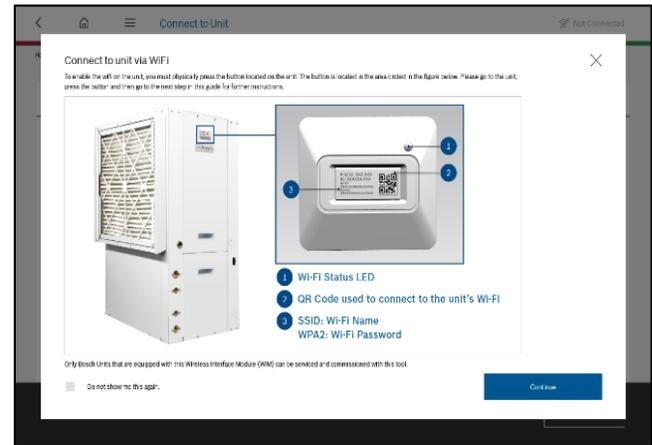

Figure 15: Connect to unit via Wi-Fi – Pop up
1. Open Bosch EasyStart app and then tap Connect to Unit icon. The connection Guide will open, instructing user how to connect to the unit. See the figure 15.
1. Open Bosch EasyStart app and then tap the Connect to Unit icon. The connection Guide will open and instructing user how to connect to the unit. See the figure 15.
1. Open Bosch EasyStart PC app. Tap the “Connect to unit” icon which will navigate to the next window where it will show instruction how to connect HPC unit with app. See the figure 15.